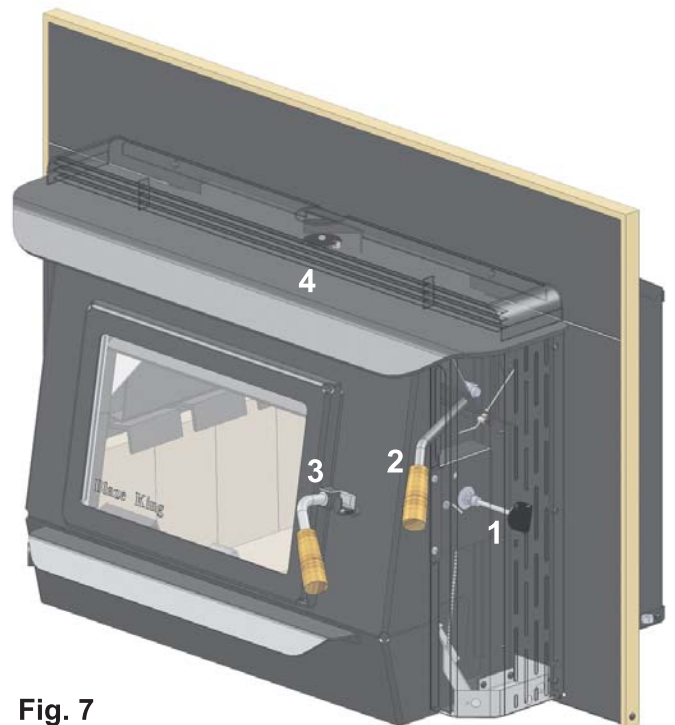

Fig. 7
The thermostat knob is located on the right side of the stove. (**Fig. 7 #1**) It controls the burn rate of the stove. Any thermostat position between **LOW** and **HIGH** will produce the desired clean burning characteristics. However, since each installation is different, you may find it necessary to operate the thermostat to suit your situation. A **HIGH** thermostat setting will produce maximum heat which is more than suitable for heating the average size home. All adjustments to the thermostat should be done gradually. When you first light the stove set the thermostat to **HIGH** setting for 20-30 minutes, or until the fire is well established. Once the fire is established turn the thermostat to **MED** for 5 minutes and then to a **LOW** setting or the desired setting. Too rapid an adjustment may cause the stove to operate improperly. The most common mistake new owners make is continually adjusting the thermostat.
Most catalytic wood burning appliances have a bypass device to allow the smoke from the fire to temporarily bypass, or go around, the catalytic combustor. The bypass door is located inside the firebox at the top of the stove. (**Fig. 7 #2**). The bypass is a steel plate door, hinged inside the stove, and is controlled by the bypass handle on the right side of the stove. When the handle is up, the bypass is open, when the handle is down, the bypass is closed. **NEVER OPEN THE LOADING DOOR WITHOUT OPENING THE BYPASS DOOR**
**CATALYTIC THERMOMETER (Fig. 7 #4)**